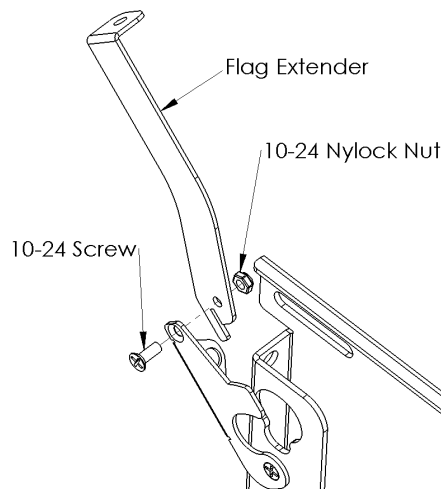

Figure 2
1. Attach latching flag extender using the 10-24 Phillips flat head screw, and Nylock nut (see Figure 2). The flag extender is optional and may not be necessary for all installations.